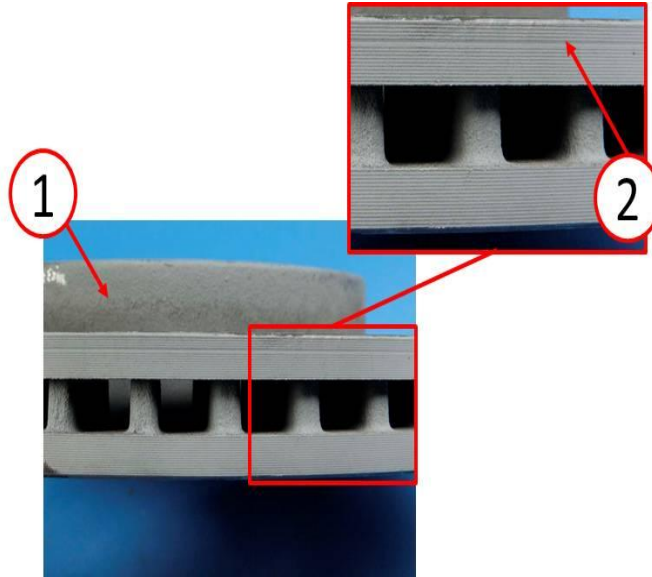

Fig. 1 Rotor
2. Inspect the right and left front rotor. Did they have the one-line rotor groove on the outboard side identified in (Fig. 1)?